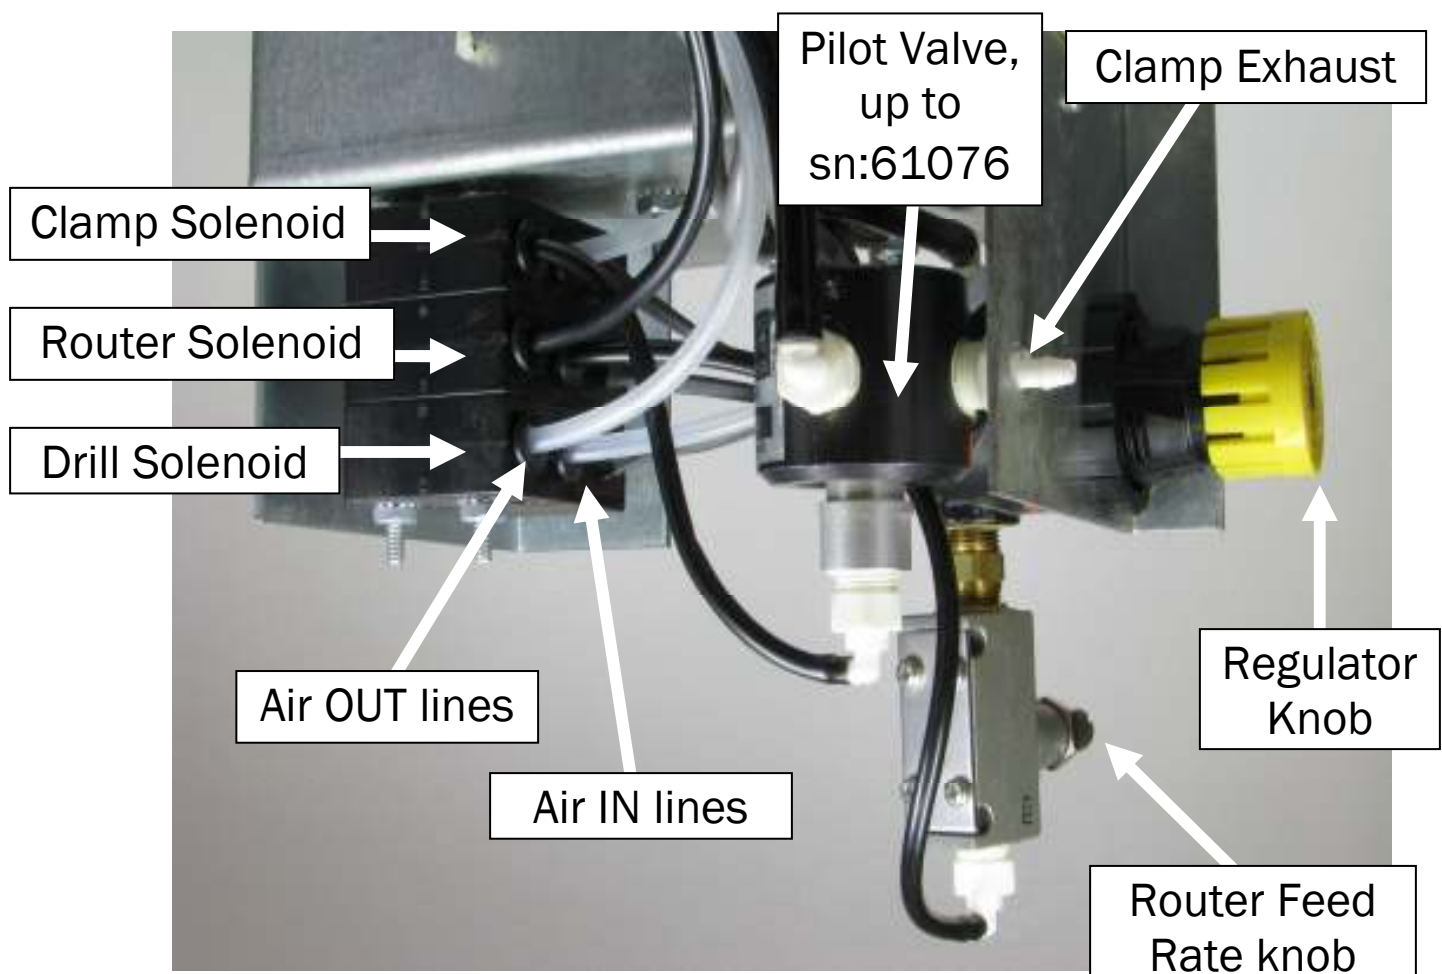

Figure 22
2. Swap the "Air Out" lines between the Drill Solenoid and the Router Solenoid. **See fig. 22**